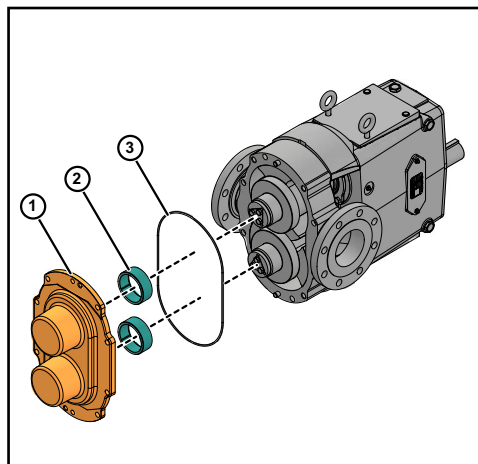

Figure 32 - Remove O-Ring
2. Remove the cover (1) and remove and inspect the cover O-ring (2), as shown in Figure 32.